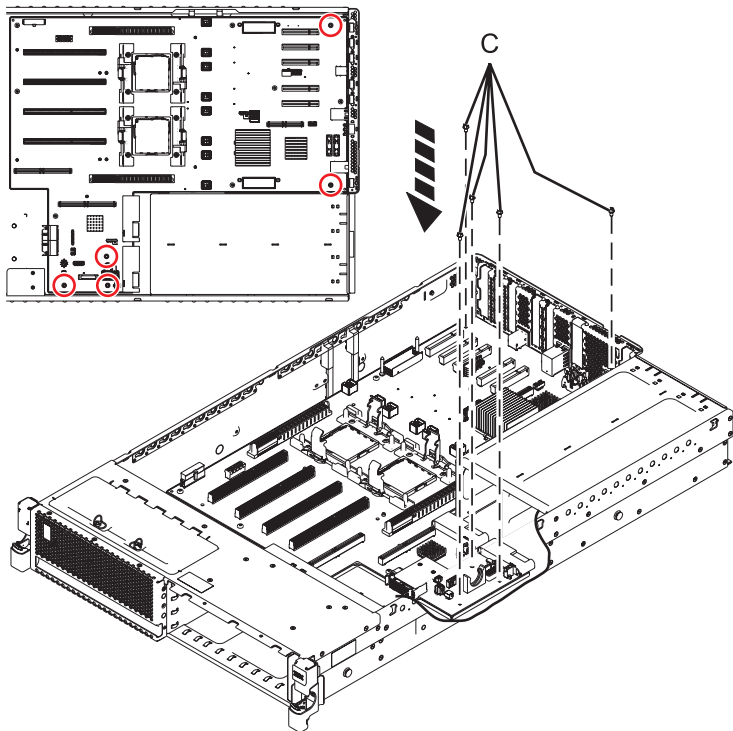
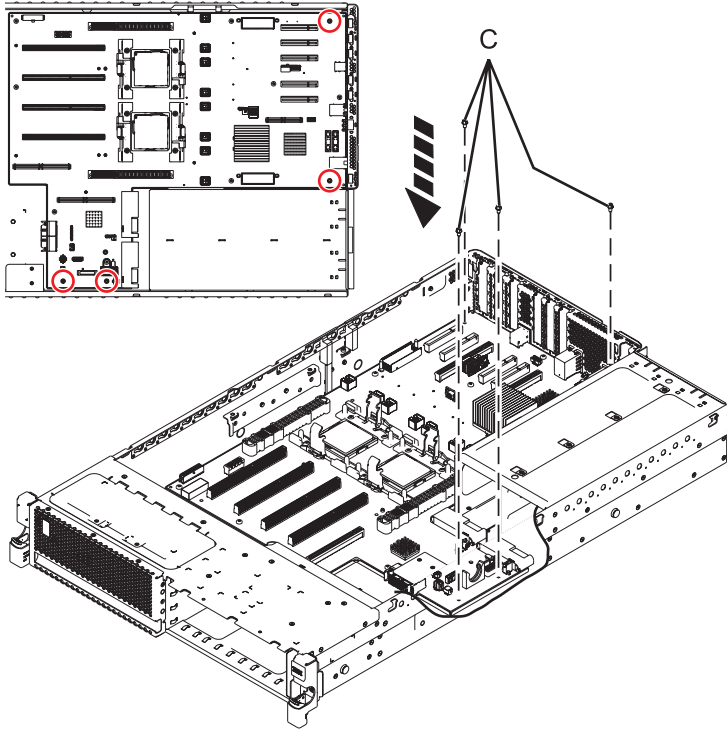

Figure 52. Replacing the system backplane (five screws for 8231-E2B)
Figure 53. Replacing the system backplane (four screws for 8231-E1C, 8231-E1D, 8231-E2C, 8231-E2D, or 8268-E1D)
- e. Tighten the screws (C) that secure the system backplane to the system chassis. See Figure 52 or Figure 53 on page 63.